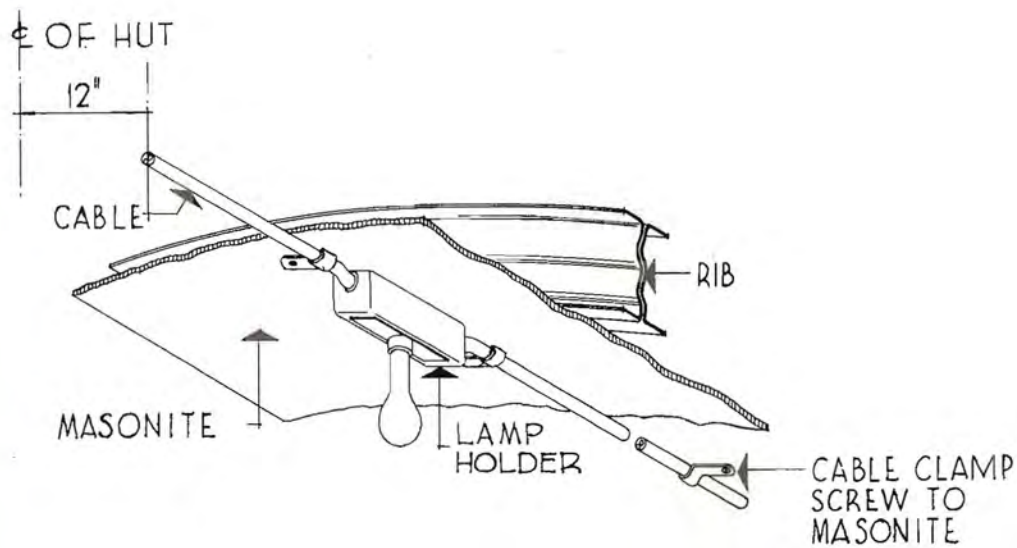

FIG. 2
2. Fasten the Romex cable to the Masonite with cable clamps spaced approximately 3 feet apart, starting 3 inches from the switch box, and continuing so as to include cable clamps attached to the Masonite approximately 1½ inches from either end of all lampholders and one cable clamp spaced midway between all lampholders. (See Fig. 2.)